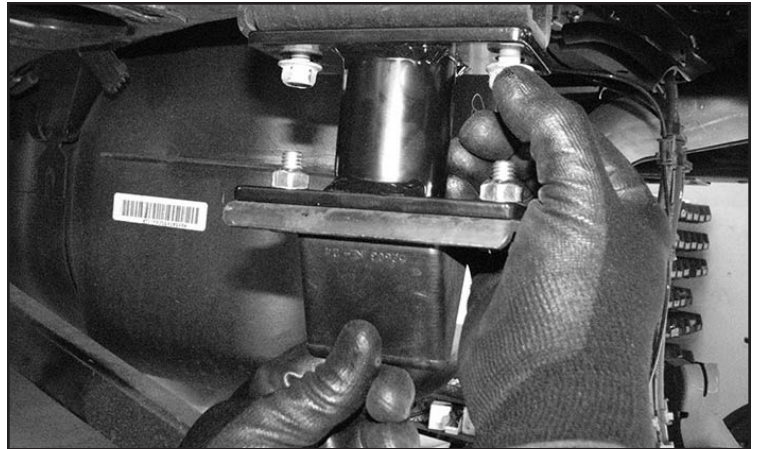

FIGURE 67 - STEP 60
60. Locate the FT44406BK rear bump stop spacer and supplied 7/16"-14 x 1-1/4" bolts, nuts, and washers. Install the FT44406BK spacer with the factory bolts that were removed during disassembly. Then, install the factory bump stop onto the spacer bracket with the supplied 7/16" hardware. Torque to 58 ft-lbs. **SEE FIGURE 67**